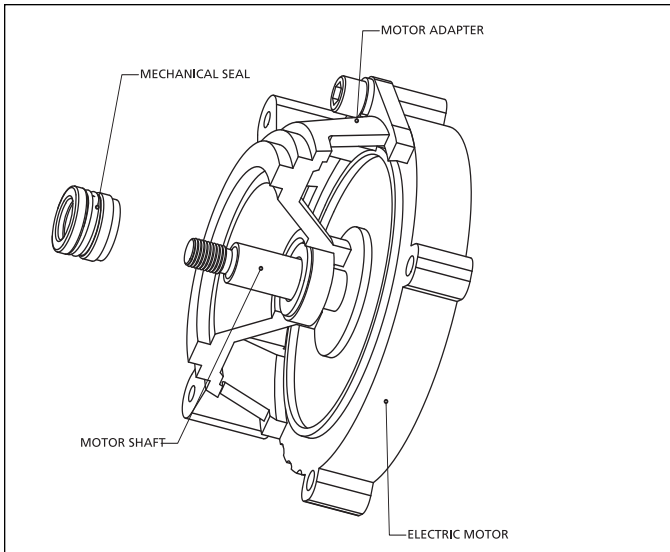

Figure 4 - Seal Removal
3. The seal (Ref. No. 5) can now be pulled from the shaft. (See Figure4).
### **Seal Assembly Removal and Installation (Figures 4 thru 7)**